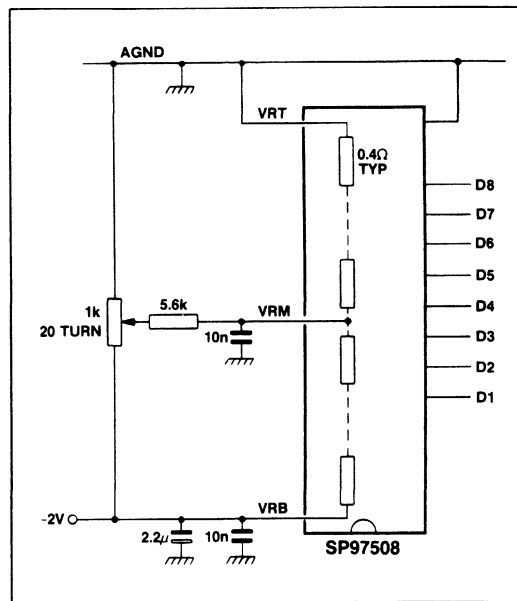

Fig. 8 Reference connections
**Reference Pins (Figs. 8 and 9)**